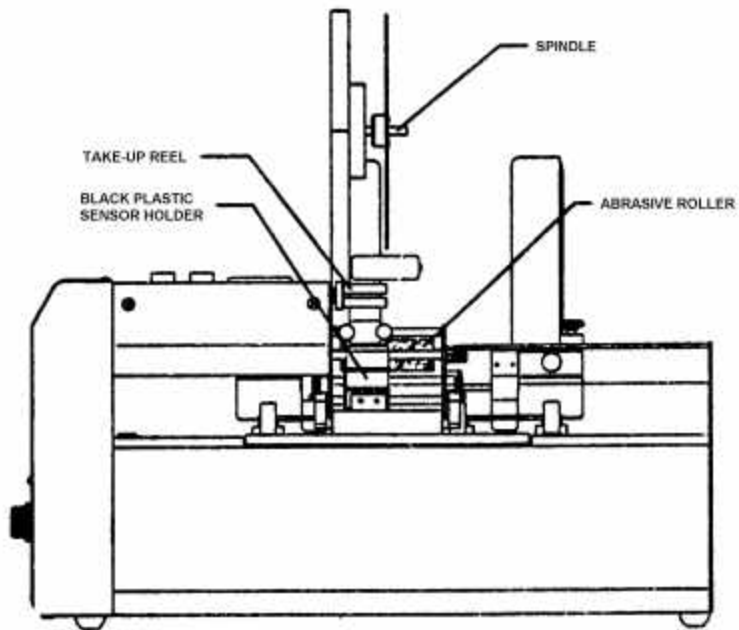
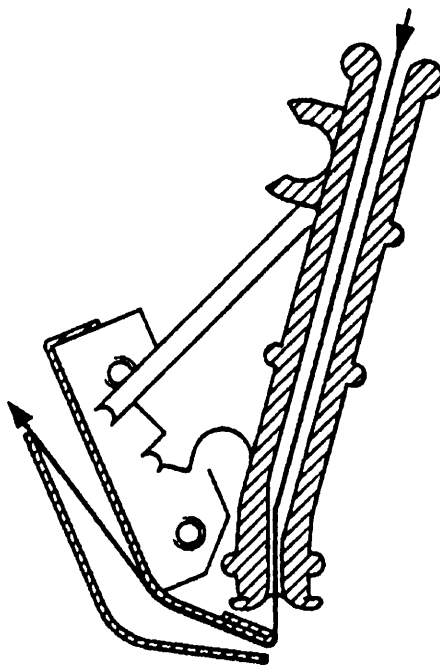

Figure 5A
Figure 5B
2. Place roll of tabs on SPINDLE (Fig. 5A).
7. Thread tab stock through BLACK PLASTIC SENSOR HOLDER (fig. 5A) until stock exits the front for the machine. Bend backing paper and thread it through metal lip (Fig. 5B) until it touches ABRASIVE ROLLER (Fig. 5A).
10. Place backing paper into TAKE-UP REEL (Fig. 5A).